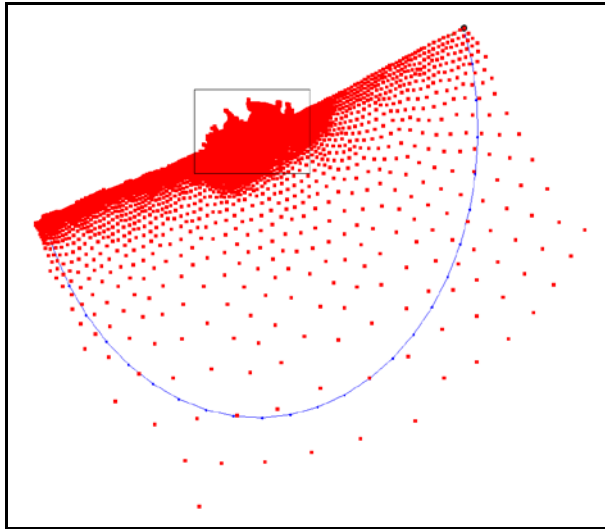
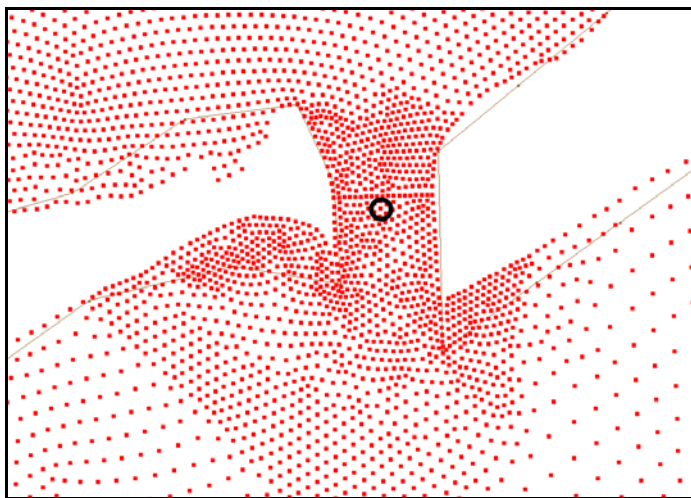

Figure 3 Inlet location to zoom in on.
Figure 4 Choose a center point.
3. Still in the Scatterpoint  module, zoom in to the area of the inlet shown in Figure 3 with the Zoom  tool until your screen looks like Figure 4.